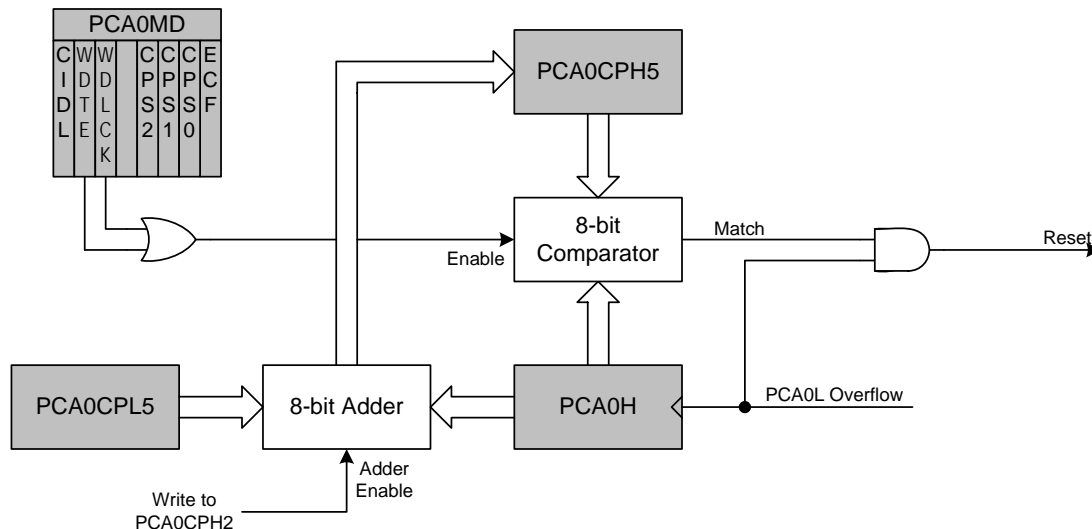

Figure 30.11. PCA Module 2 with Watchdog Timer Enabled
While the WDT is enabled, writes to the CR bit will not change the PCA counter state; the counter will run until the WDT is disabled. The PCA counter run control bit (CR) will read zero if the WDT is enabled but user software has not enabled the PCA counter. If a match occurs between PCA0CPH5 and PCA0H while the WDT is enabled, a reset will be generated. To prevent a WDT reset, the WDT may be updated with a write of any value to PCA0CPH5. Upon a PCA0CPH5 write, PCA0H plus the offset held in PCA0CPL5 is loaded into PCA0CPH5 (See Figure 30.11).